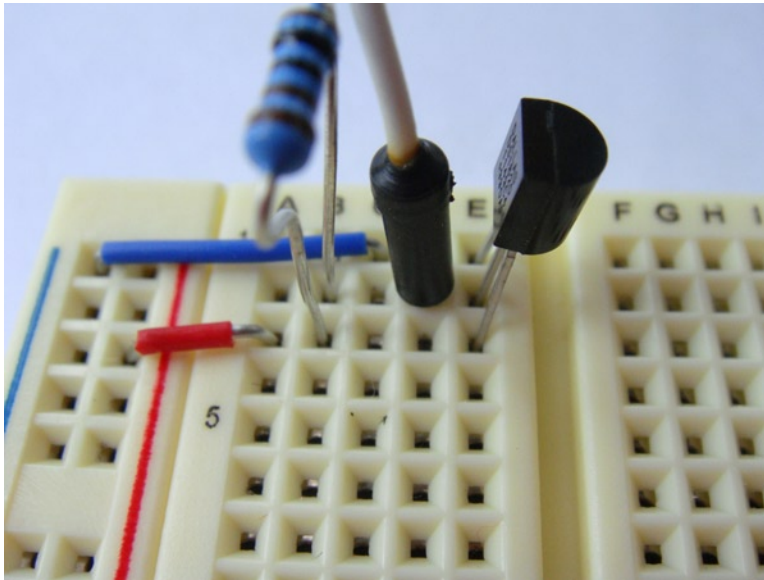
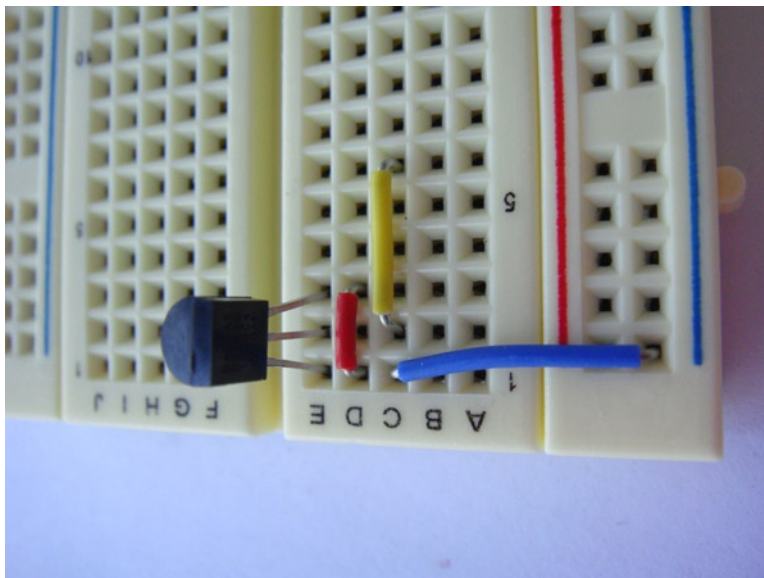

Figure 3-11. The final connections in standard mode
Figure 3-12. Jumpers for the parasite mode installed
5. After this, you insert a hook-up wire from between the sensor and the resistor to P1-07 (GPIO-4) on the Raspberry Pi. In Figure 3-11 you can see the final connection. In Figure 3-11 you can see you have used all three pins (this is standard mode, remember). In a multidrop long-range deployment that would be a lot of wires! This is where the parasite mode comes in.
6. Now go ahead and pull everything but the DS18B20 off your breadboard. Once again, start off by connecting your jumper wires. Connect pin 1 to ground as shown in Figure 3-11. Now place a jumper between pin 1 and pin 3. According to the data sheets for the DS18B20B you must tie the V_{dd} line to the GND line. You're going to need to place a jumper wire out from pin 2 to a new row on the breadboard. Take a look at Figure 3-12: it will be much easier to see how I have done it.